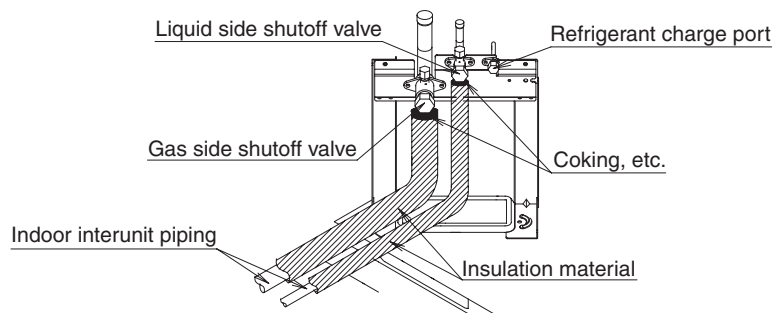

figure 29
- If there is a possibility that condensation on the shutoff valve might drip down into the indoor unit through gaps in the insulation and piping because the outdoor unit is located higher than the indoor unit, etc., this must be prevented by caulking the connections, etc. (**Refer to figure 29**)